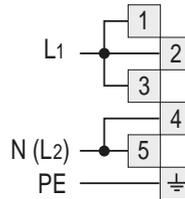

Fig. 58
- Position the U bolts "F" onto terminal board "G" (fig. 57) according to the diagrams in fig. 58.
- Connect the phase, neutral and earth wires to terminal board "G" according to the diagrams in fig. 58.